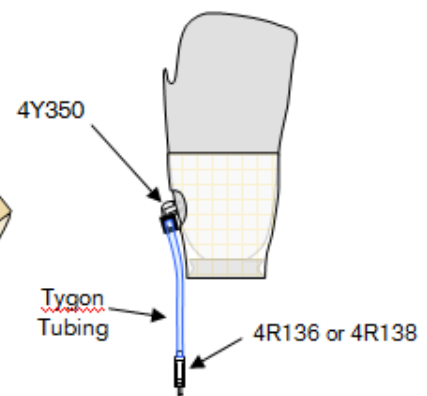

Figure 3
- 1) Install 4Y350 & 4Y344 filter barb fitting into test socket (see Fig. 3).